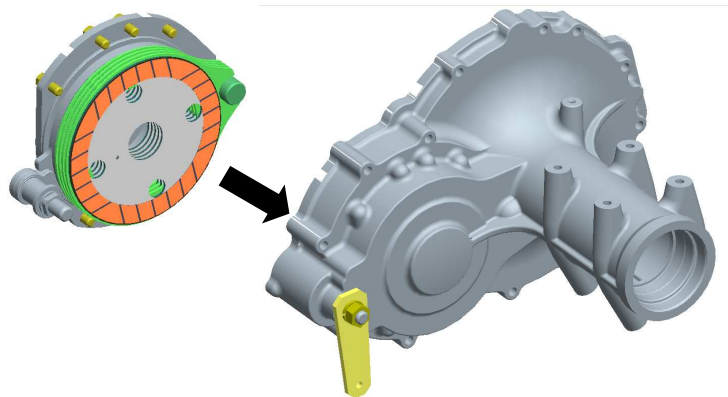

Fig.7-7
- 3) Metal Brake cover tightening bolts should be tightened to the specified torque with a torque wrench. (Fig.7-7)